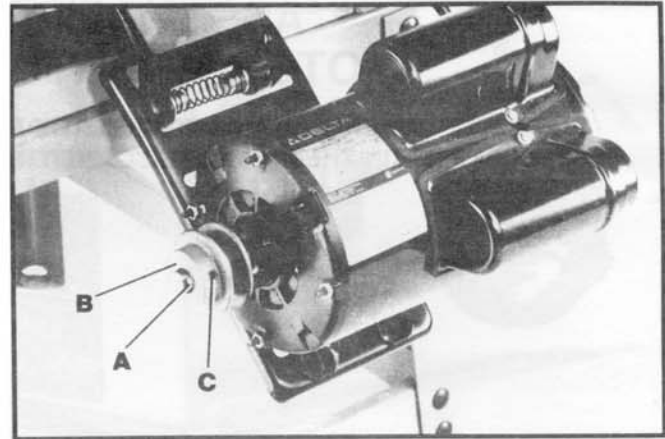

Fig. 11
- 2 Insert the key (A) Fig. 11, in the keyway on the motor shaft. Assemble the motor pulley (B) on the motor shaft as shown, with the hub of the pulley out. Tighten set screw (C) against key (A) in motor shaft.